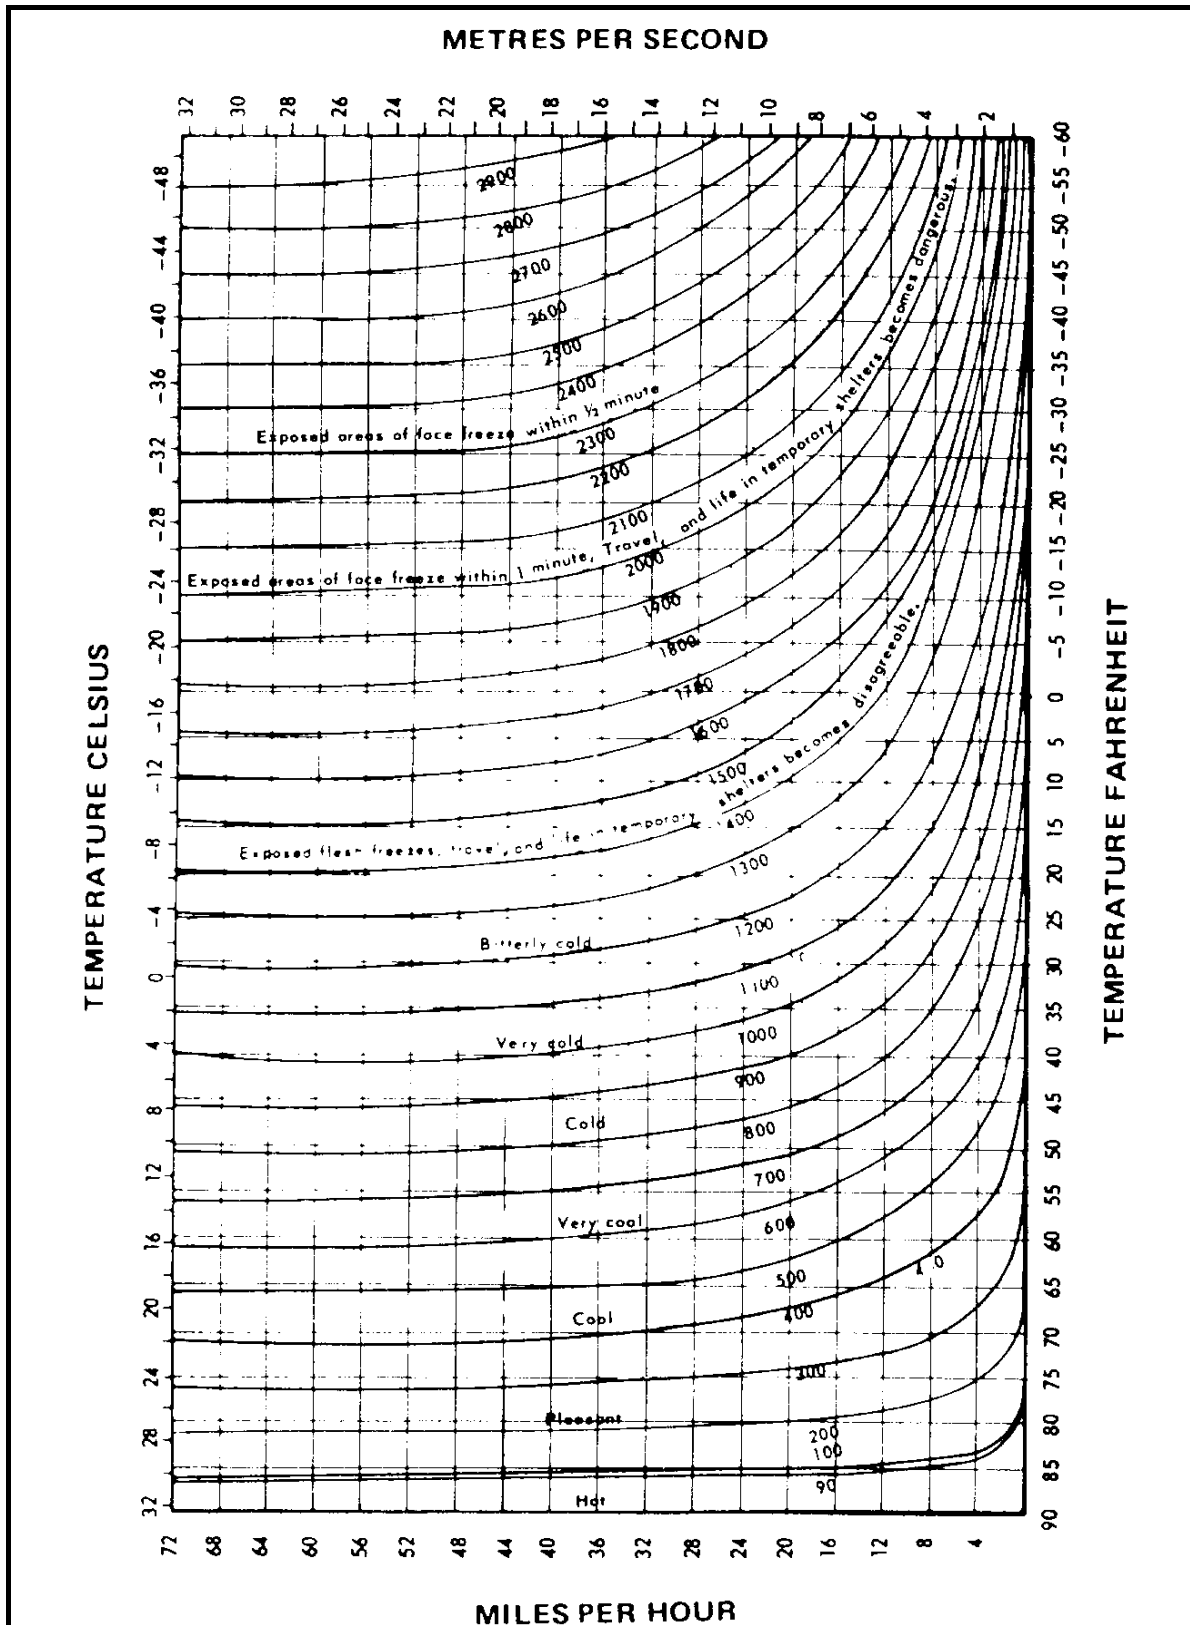

Figure 1-2 Windchill Graph
2. Look at the graph at Figure 1-2. It has been drawn to show a value representing the amount of heat lost for any wind speed and temperature. For example, you will see that a temperature of 7EC and a wind speed of 48 miles per hour produces the same effect as a temperature of -28EC and a wind speed of 5 miles per hour. Both these sets of conditions result in the loss of about 1,400 kilo calories in an Hour and both, therefore, are said to have a windchill factor of about 1400. You will find that other combination of comparatively mild temperatures and high winds produce chilling effects on the body equal to those produced by sub-zero temperatures combined with light winds.